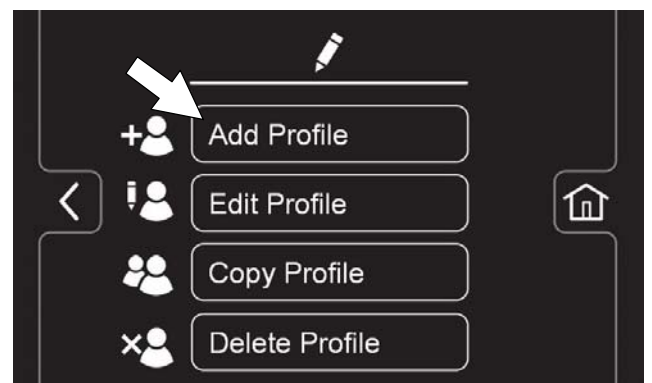

FIG. 162
- Press the Add Profile button to add a new user profile (Figure 162).